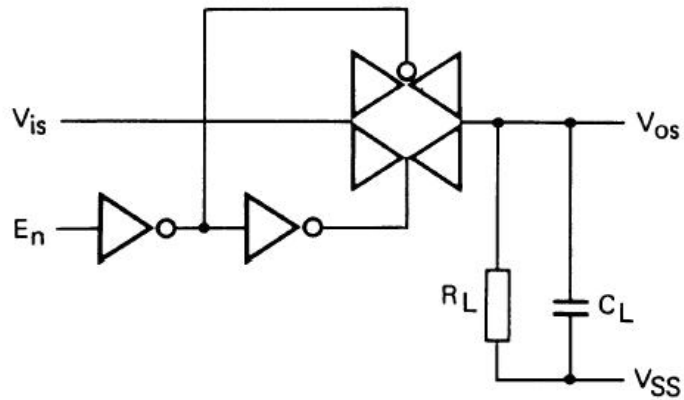

图 7
5. $R_L = 10 k$; $C_L = 15 pF$; $E_n = V_{DD}$; $V_{is} = 1/2 V_{DD}(p.p)$ (正弦波, 直流偏置为 $1/2 V_{DD}$); $f_i = 1 kHz$; 见图7.
$20\log (V_{OS} / V_{IS}) = -50\text{dB}$; 见图7;
$20\log (V_{OS} / V_{IS}) = -3\text{dB}$; 见图 7;